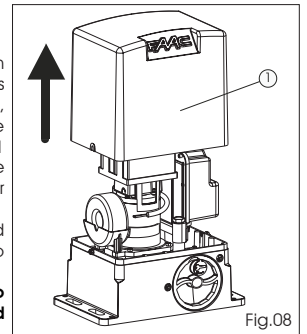

Fig.08
- Remove the cover, Fig. 08 ref. 1.